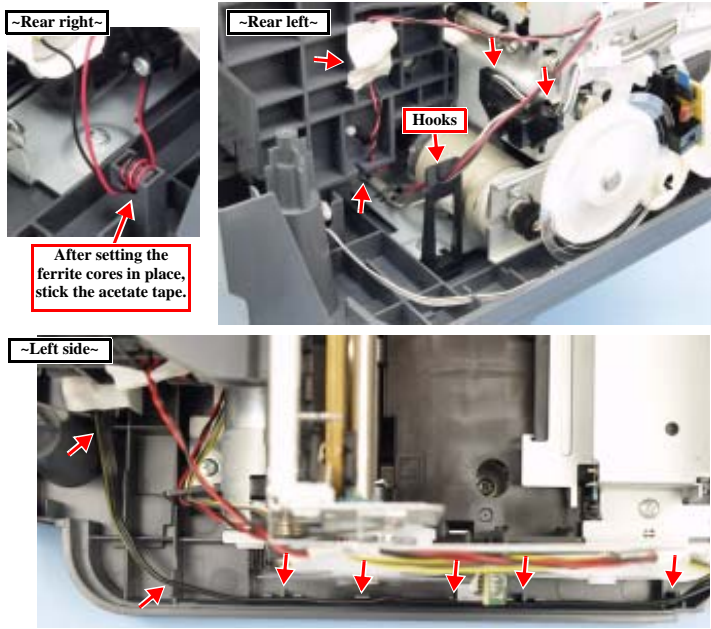
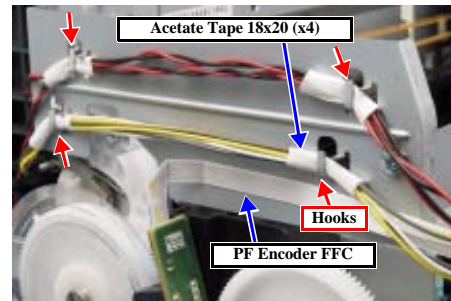

Figure 4-22. Routing the Harness 1
Figure 4-23. Routing the Harness 2
- The harness is routed properly. (Fig. 4-22), (Fig. 4-23)